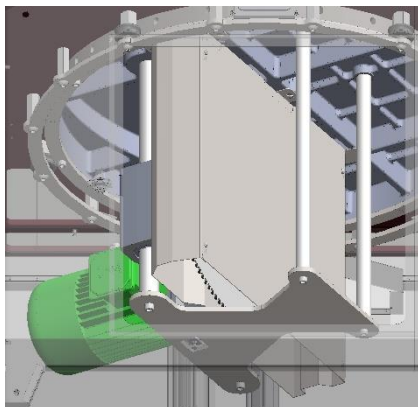

Figure 3
- 8.1.2. Remove the saw blade guard. (Figure 3)